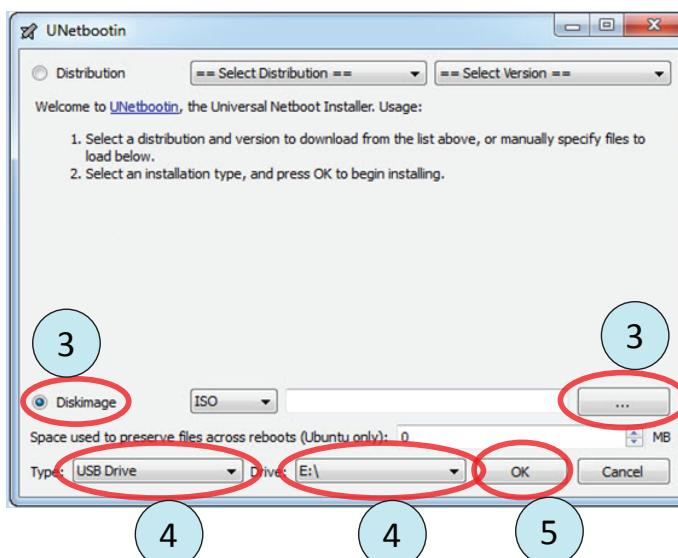

Figure E3. Initial UNETBOOTIN application window.
- 2) Run the UNETBOOTIN application. The UNETBOOTIN window (shown in figure E3) will open.
- 3) Select the **Disk Image** option, then click the '...' button (both are circled in figure E3). Locate and select the POTC ISO file you downloaded from the Jersey Jack Pinball® website.
- 4) Ensure that the **USB Drive** is selected under **Type** and the USB stick you inserted earlier ("E:\\" in this example) is selected under **Drive** (both are circled in figure E3).